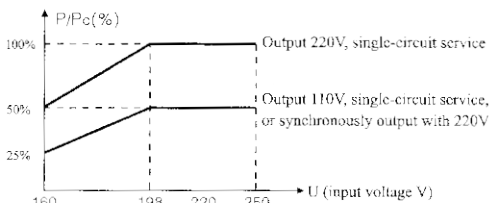

Fig.1
When the network voltage is lower than 198V, the output capacity of voltage stabilizer would be reduced correspondingly; when the output voltage is 110V, its output capacity should not exceed 50% of rated capacity; the relationship between output capacity and input voltage is shown as in Fig.1.
- When the network voltage is lower than 198V (it takes phase voltage as the reference for three-phase), please use after reducing the power according to Fig.1: curve of output capacity.